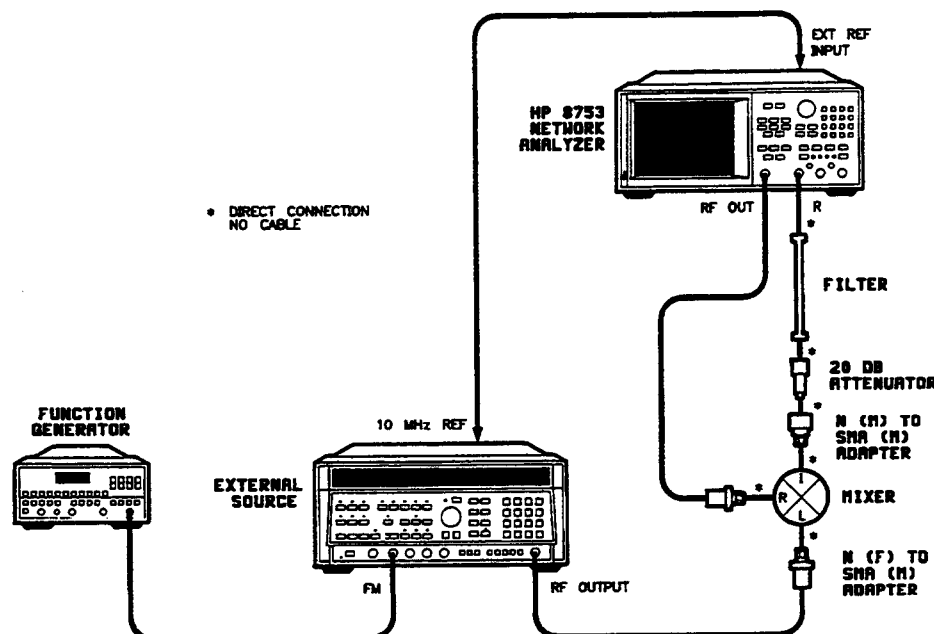

Figure 37. Frequency Offset Mode Test Setup
2. Connect the equipment as shown in Figure 37.